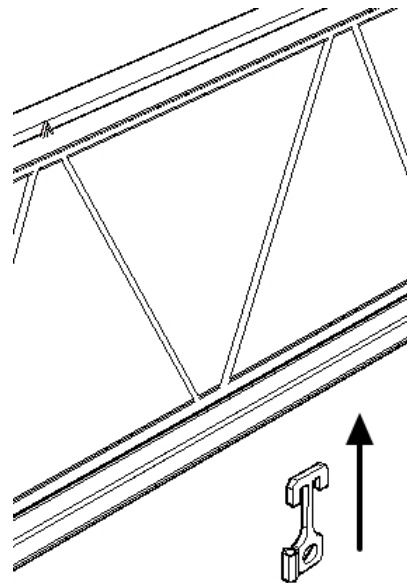

Figure 9 - Raise Anchor
8. With the pole, raise the anchor above you. Keep the pole as vertical as possible. See Figure 9.